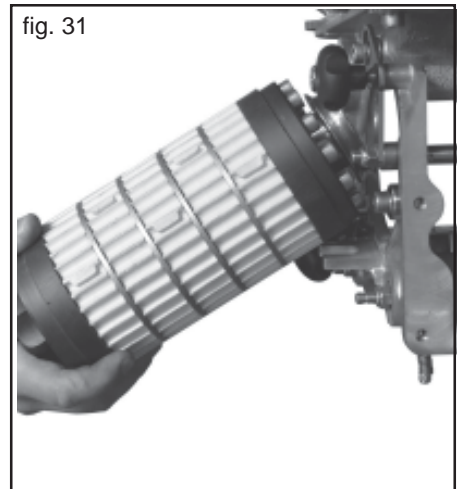

fig. 31
- 2) Extract the seeding roller (Fig. 31) as shown and described previously.